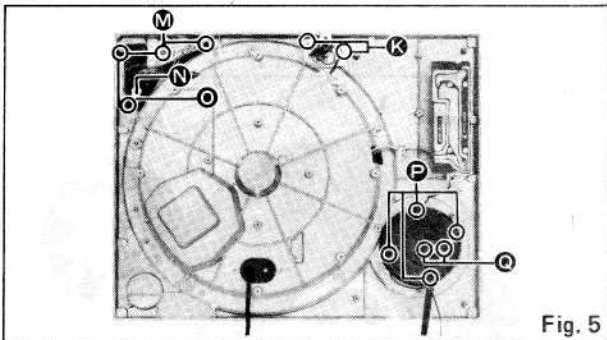

Fig. 5
11. Remove 2 screws **K** of the stylus-illuminator lamp ass'y as shown in Fig. 5.
13. Remove 4 screws **M** as shown in Fig. 5.
14. Remove 1 circlip **N** and switch cam **O** as shown in Fig. 5.
16. Remove 4 screws **P** of the arm base cover as shown in Fig. 5.